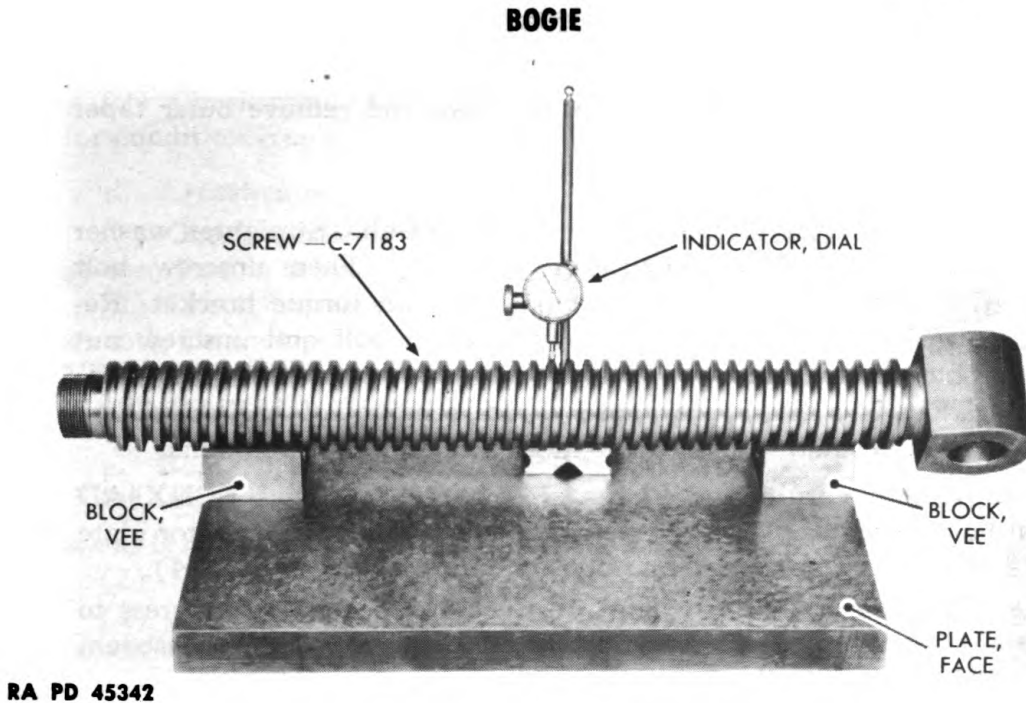

Figure 276—Inspecting Bogie Lifting Inner Screw
(1) Examine threads of bogie lifting inner and outer screws for burs. Remove burs with a smooth file, and polish with **CLOTH**, crocus. Then be sure to clean the screw in **SOLVENT**, dry-cleaning.
(2) Place each lifting screw in vee blocks mounted on a surface plate. Using a dial indicator, with indicator plunger just touching screw threads, check the alinement of each screw by rotating screw and moving dial indicator the full length of the threads (fig. 276).
(3) Screws out of alinement must be replaced.